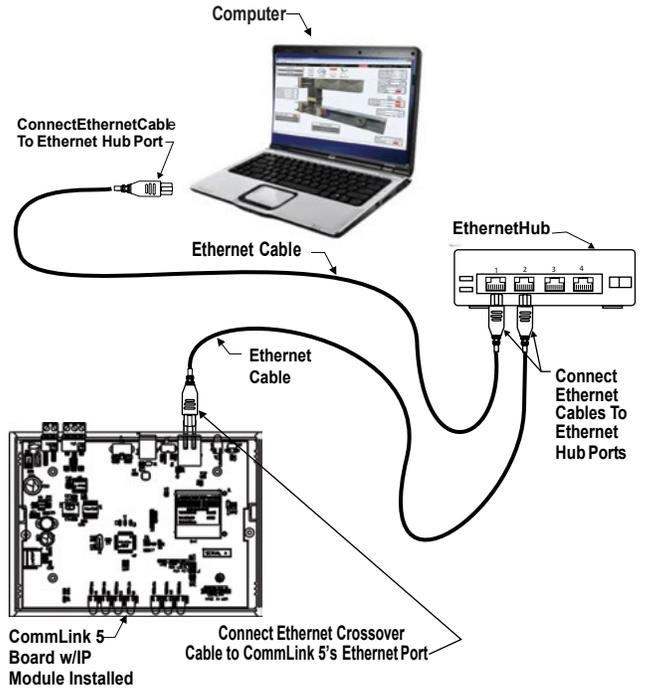

Figure 6: Connecting with Ethernet Cable and Hub
- 2.) You can connect both your PC and the CommLink to an Ethernet Hub with standard CAT5 cables (by others). See **Figure 6** for details.